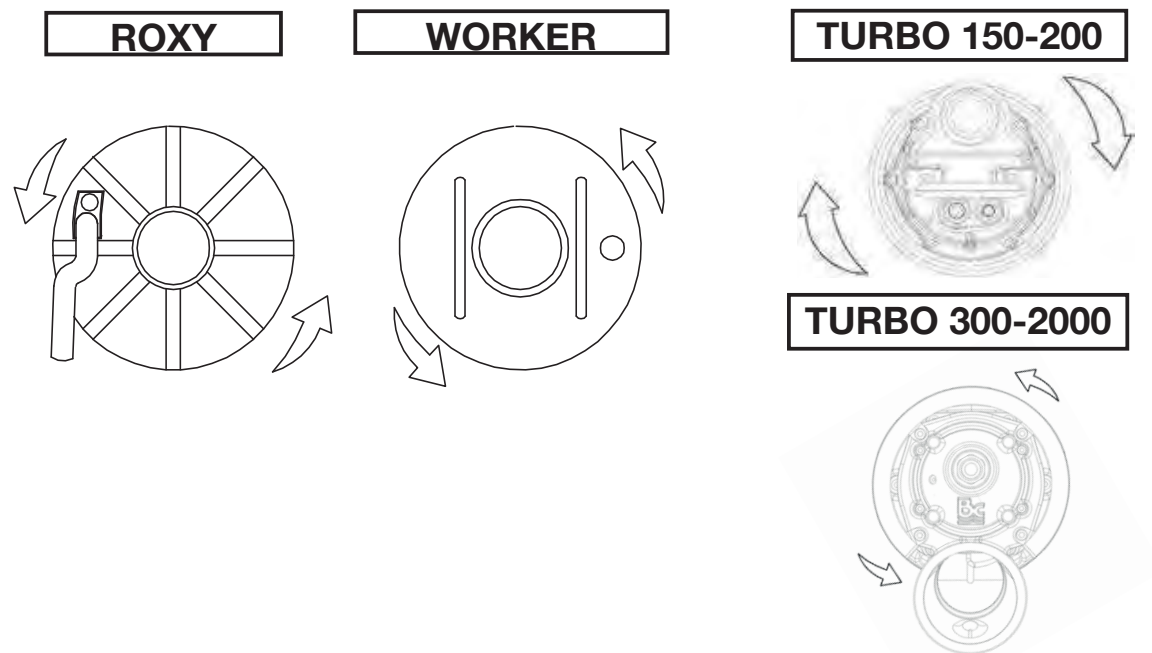

Fig. 2
3. Carefully observe the kick-back on starting, looking at the pump from above. If the direction of rotation is correct, the upper cap will turn counter-clockwise as indicated by the arrows in the drawing (Fig. 2).